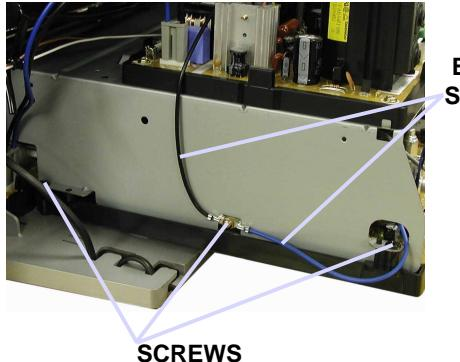
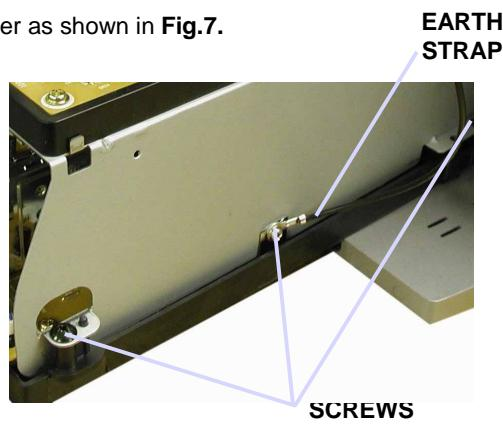

Fig.4.
Fig.5.
1. Remove the 6 screws, three from each side, from the top cover, as shown in **Fig.4.** and **Fig.5.**
2. Remove the 3 earth straps as shown in **Fig.4.** and **Fig.5.**